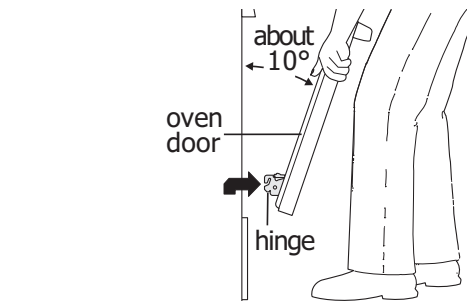
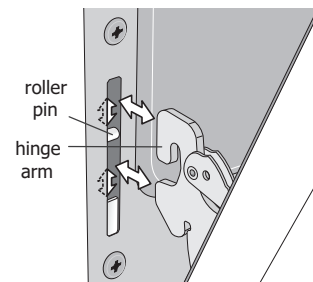

Figure 17: Holding door for removal
Figure 18: Replacement and location of hinge arm and roller pin
3. Firmly grasp both sides of oven door along the door sides. Do not use the oven door handle (See Figure 17).
4. Close the door to approximately 10 degrees from the door frame (See Figure 17).
5. Lift the oven door hinge arms over the roller pins located on each side of the oven frame (See Figure 18).
1. Firmly grasp both sides of oven door along the door sides. Do not use the oven door handle (See Figure 17).
2. Holding the oven door at the same angle as the removal position, seat the hook of the hinge arm over the roller pins located on each side of the oven door frame (See Figure 17 and Figure 18). The hook of the hinge arms must be fully seated onto the roller pins.
The interior oven light is located at the rear of the oven cavity (Figure 18).